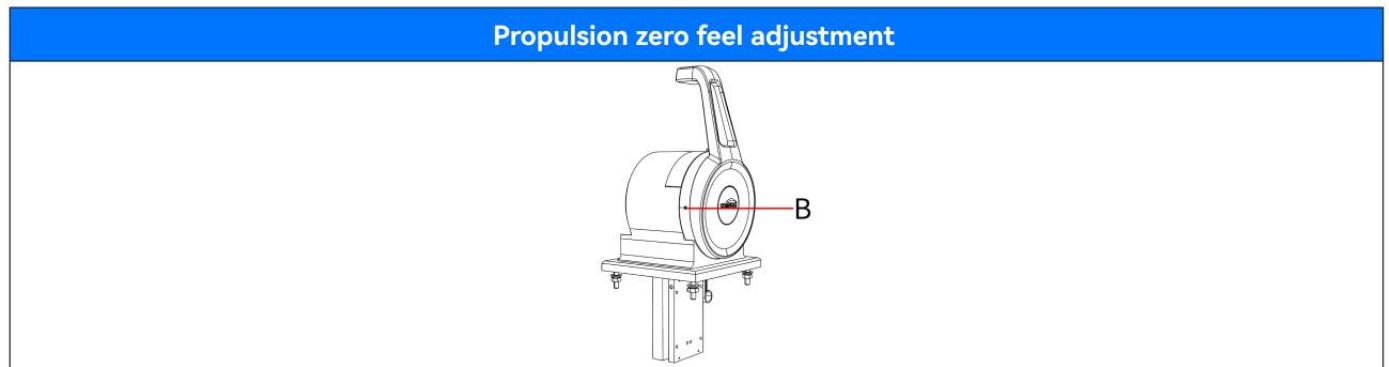

Figure 4.2
2. As shown in FIG. 4.2, use an Allen wrench at B to rotate and adjust the strength of the push zero feel.